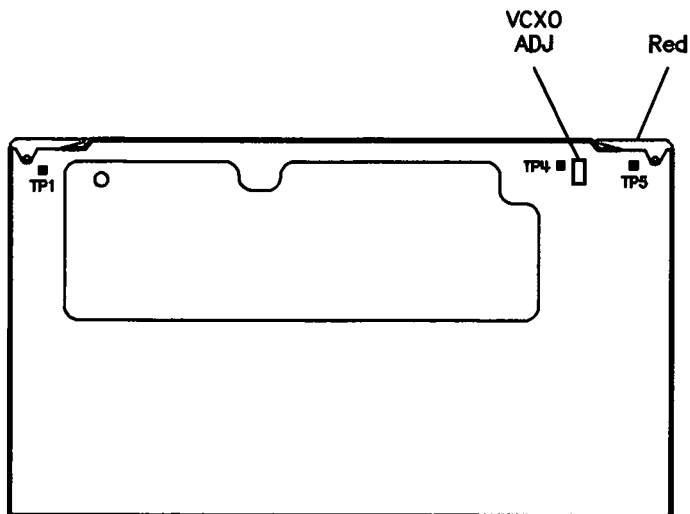

Figure 5–8. VCXO Adjustment Location
1. Connect the instruments as shown in Figure 5–6. Make sure the drive is set to HP–IB address 00.
1. Connect port 1 of the analyzer to the frequency counter input (see Figure 5–5). Press **RECALL**
3. Otherwise, locate the A12 assembly (red extractors) and adjust VCXO ADJ (see Figure 5–8) for a frequency counter reading as close to 13.5 GHz as possible.
2. Disconnect W3 from S2J3 and connect the frequency counter to S2J3. See Figure 5–9.
4. Calibrate the power meter. Remove the frequency counter and connect the power sensor to S2J3. Adjust the low band power level (see Figure 5–10) so that the power meter displays 0 dBm.
2. Calibrate the power meter and connect it to port 1 (see Figure 5–10).
3. Use the blanking adjustment to obtain  $-12$  dBm at port 1, ( $-17$  dBm for Opt. 006) (see Figure 5–9).